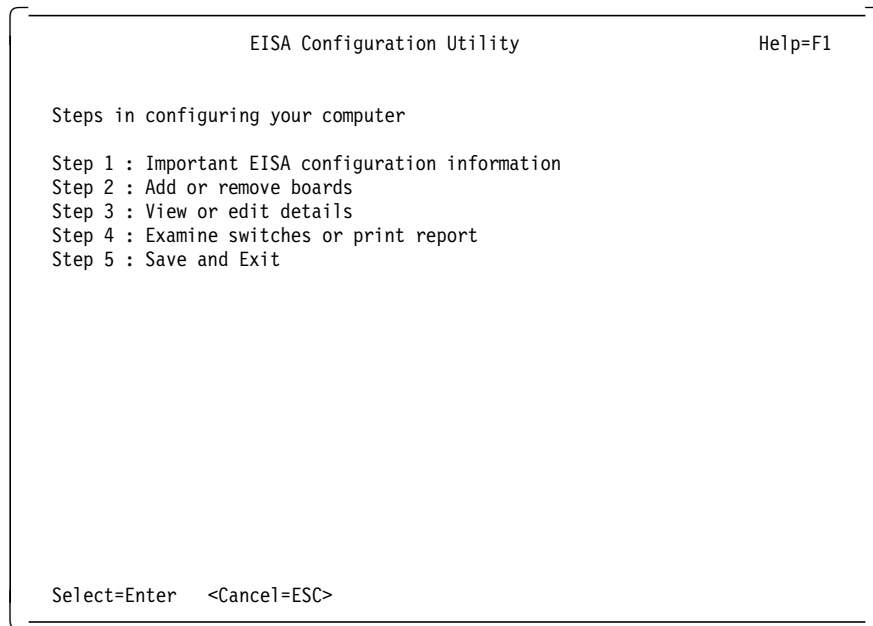

Figure 3. EISA Configuration Utility - Steps
3. The welcome panel will appear. Press Enter to continue. A panel similar to the one in Figure 3 on page 10 will then appear.